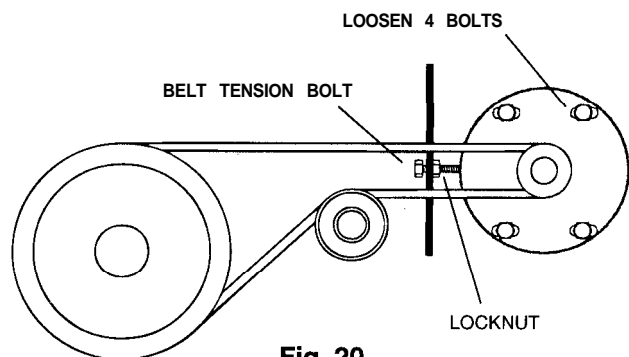

Fig. 20
2. Loosen (4) bolts on drive motor. (Figure 20)